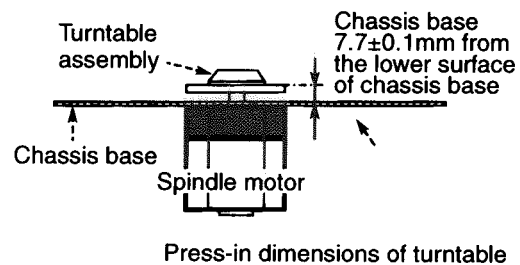

Fig. 13
(See Figs. 13 ~ 15)
1. Press in the turntable assembly to the spindle motor according to the dimensions in Fig. 13.